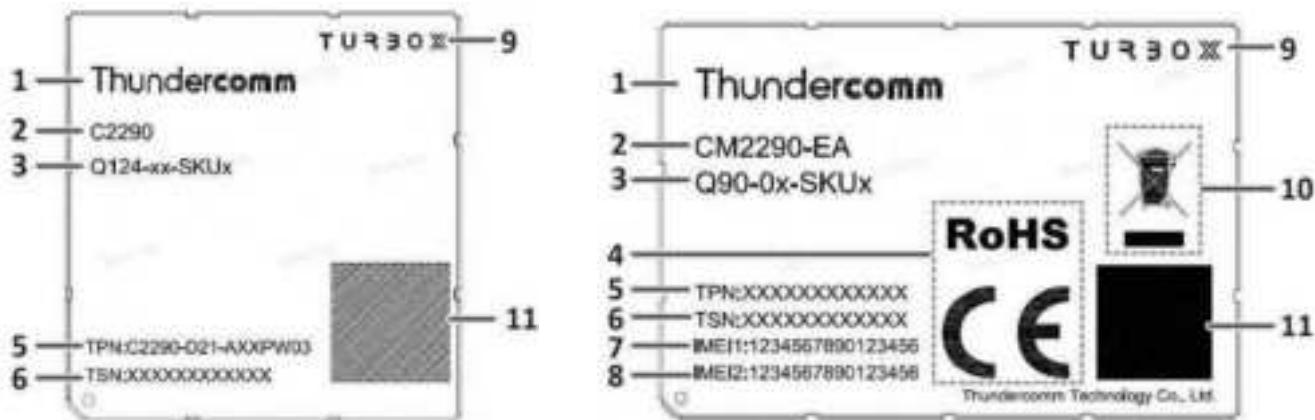

Figure 1-9.Laser Marking of CM2290 SOM
Refer to Figure 1-9 for the module laser marking of TurboX CM2290.
- Figure 1-9 is for reference only and may vary with the specific module.